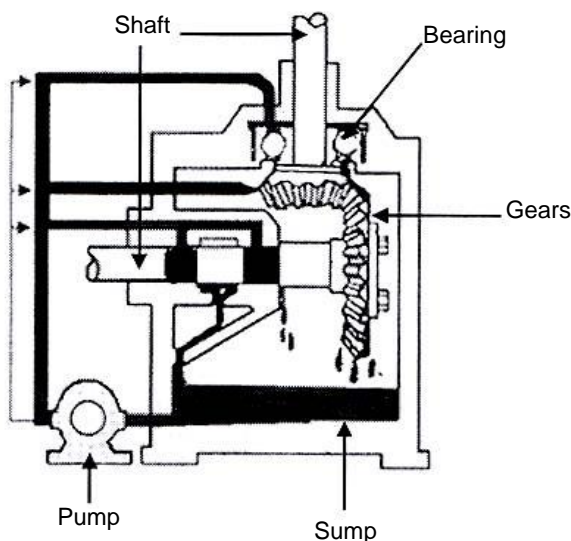

FIG 8.
- The oil is drawn from the sump by an internally or externally mounted oil pump, pressurised and then distributed to the various lubricating points, i.e. bearings, gears, shafts etc. This system is commonly used in motor car engines. See Fig 8.